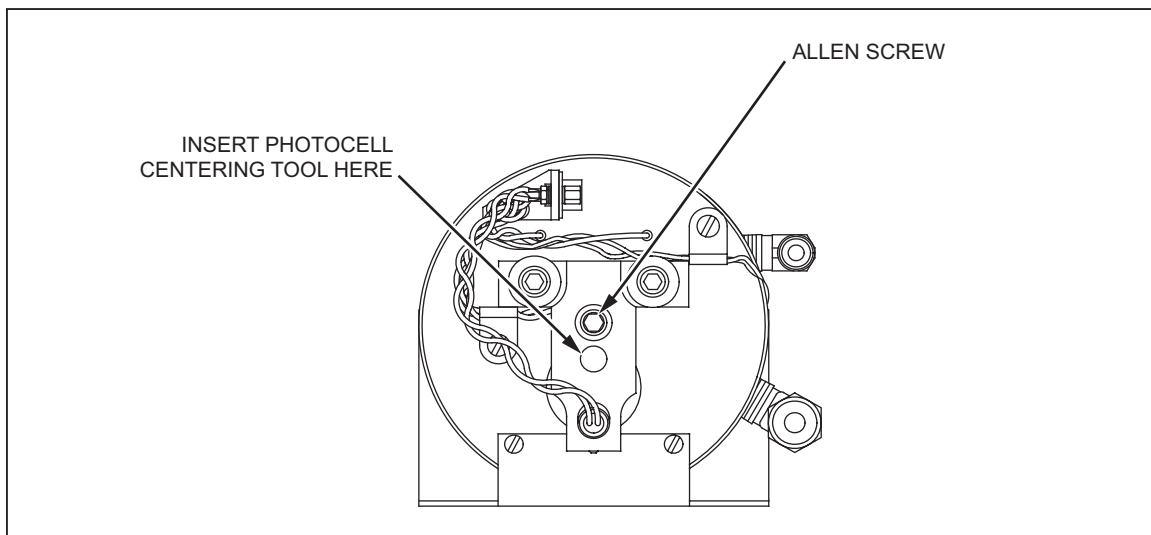

Figure 6-9. Photocell Location
- Referring to Figure 6-9, slightly loosen the Allen screw on the back of the sensor bracket, making sure to maintain a snug fit on the screw. Using the T-shaped Photocell Centering Tool (part number 7250-111), adjust the photocells by placing the tool in the hole in the back of the sensor and turning the tool slightly. The screen will show a number of horizontal lines. The top yellow bar represents the current zero setting. The bottom portion of the bar has a green bar in the center and two red bars on either end. If the top yellow bar is over the red bar, then mechanical zeroing is required. If the yellow bar is over the green bar, then no adjustment is required.